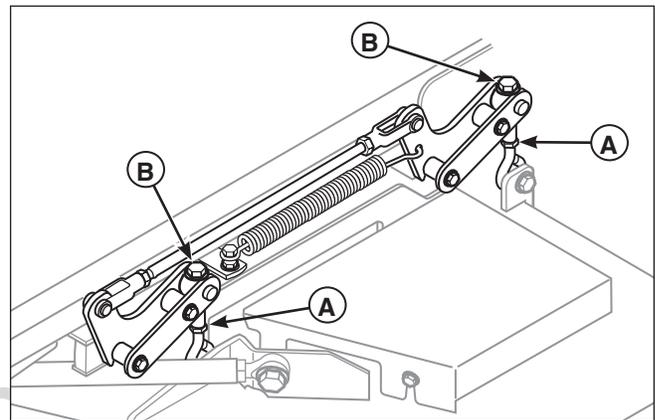

Figure 45. Hanger Chain Adjustment
2. Loosen the jam nuts (A, Figure 45) on all four deck linkages.
3. Turn the hex adjusters (B) clockwise to raise the mower deck or counter-clockwise to lower the mower deck.